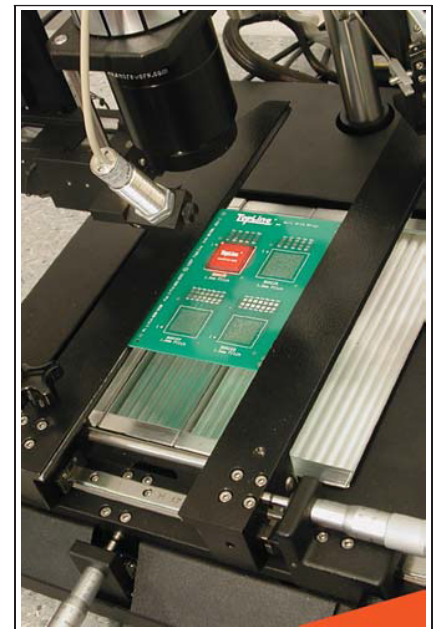

Figure 1
- 2. Place the PCB assembly/PCA in the system work piece holder. (Figure 1)